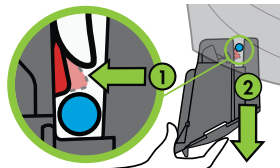

Figure 30
Use your finger to press down on the release tab to disengage UAS bin from Base Attachment Bar (1), then slide UAS Bin out (2), as shown in **Figure 30**.